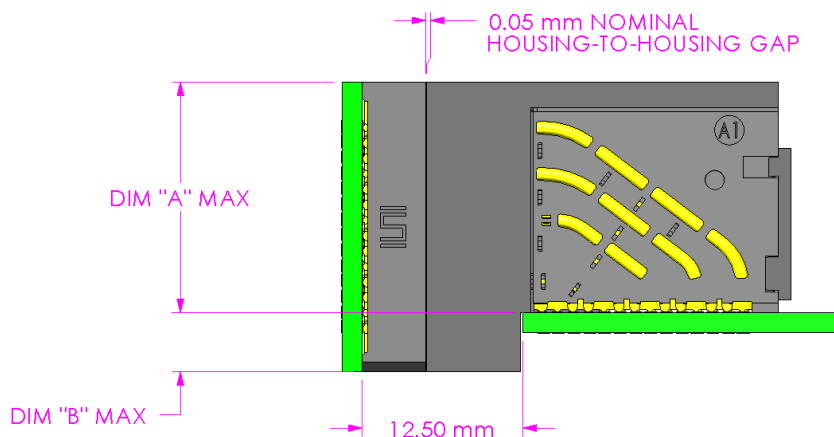

Figure 4: View of Back Panel Applications
- 3.3.1** The ExaMAX product is compatible with hard metric standards in that the distance between the backplane and front edge of the daughter card is 12.5mm for back panel applications. This distance includes a 0.05 mm nominal gap between the top face of the EBTM-VT and the front face of the EBTF-RA. See Figure 4 and Table 4 for dimensions relative to the daughter card for back panel applications.